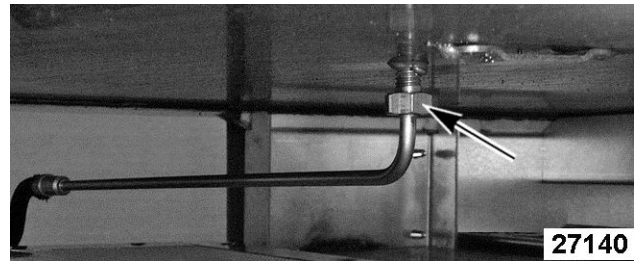

Fig. 8
4. Loosen mounting nut and remove thermocouple probe from bottom of griddle plate. Rear view shown of thermocouple probe in Fig. 8.